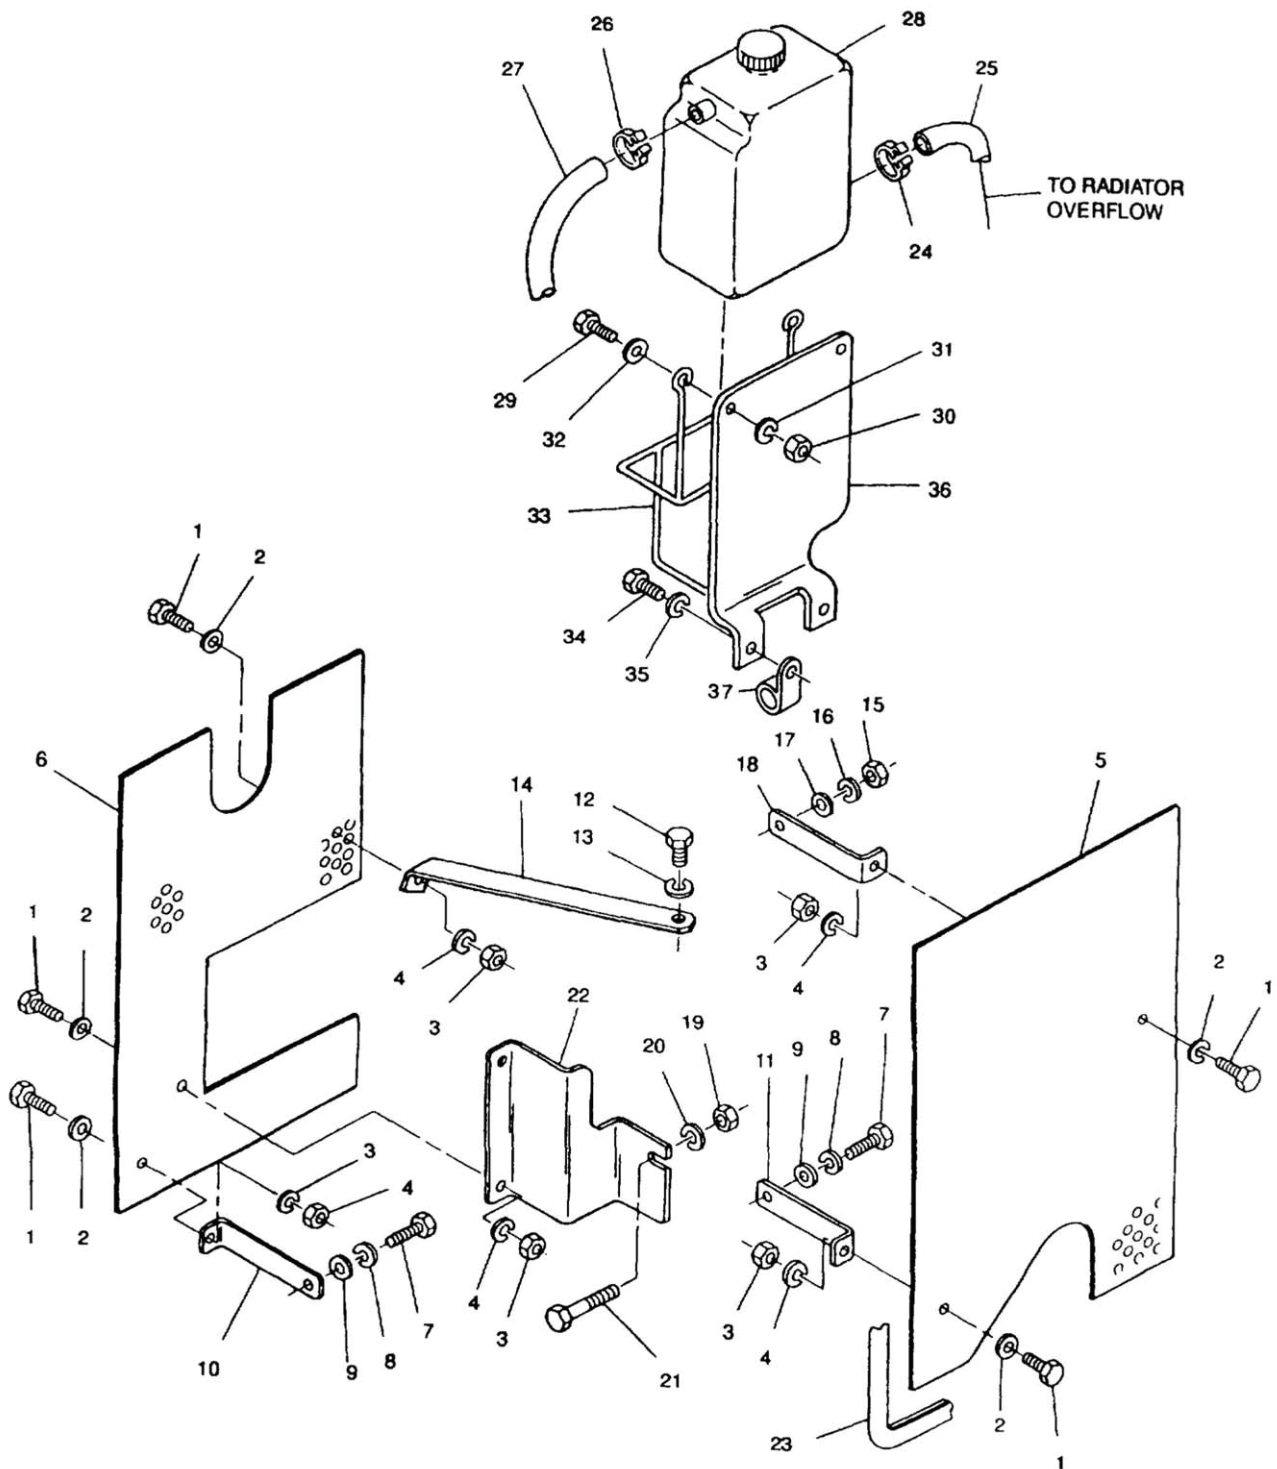

Figure 1. Fan Guards and Coolant Recovery System.
3. Remove bolts (Figure 1, Item 1), washers (2), nuts (3), and lockwashers (4) securing fans guards (5 and 6). Discard lockwashers (4).
4. Remove bolts (7), lockwashers (8), washers (9), and brackets (10 and 11) from radiator shroud. Discard
1. Install bolts (Figure 1, Item 7), new lockwashers (8), and washers (9) securing brackets (10 and 11) to radiator shroud.
2. Install bracket (14) to engine head with bolt (12) and new lockwasher (13).
3. Install bracket (18) to injection pump mount with nut (15), new lockwasher (16), and washer (17).
4. Install bracket (22) to alternator mount with bolt (21), new lockwasher (20), and nut (19).